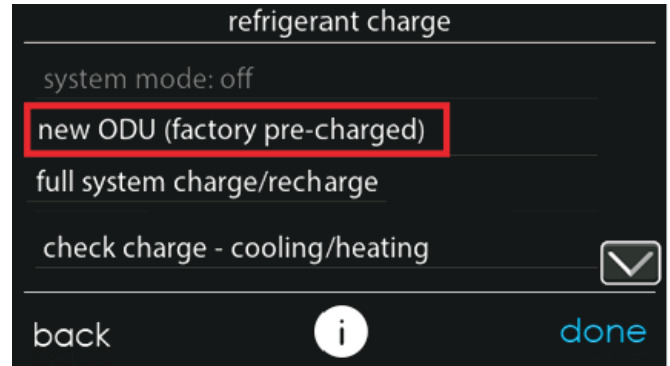

Fig. 13 – Refrigerant Charge Mode Selection
6. For new installations, select "new ODU (factory pre-charged)" from the refrigerant charge screen to begin charging the system (Fig. 13). For applications where there is no charge in the ODU, select "full system charge/recharge".